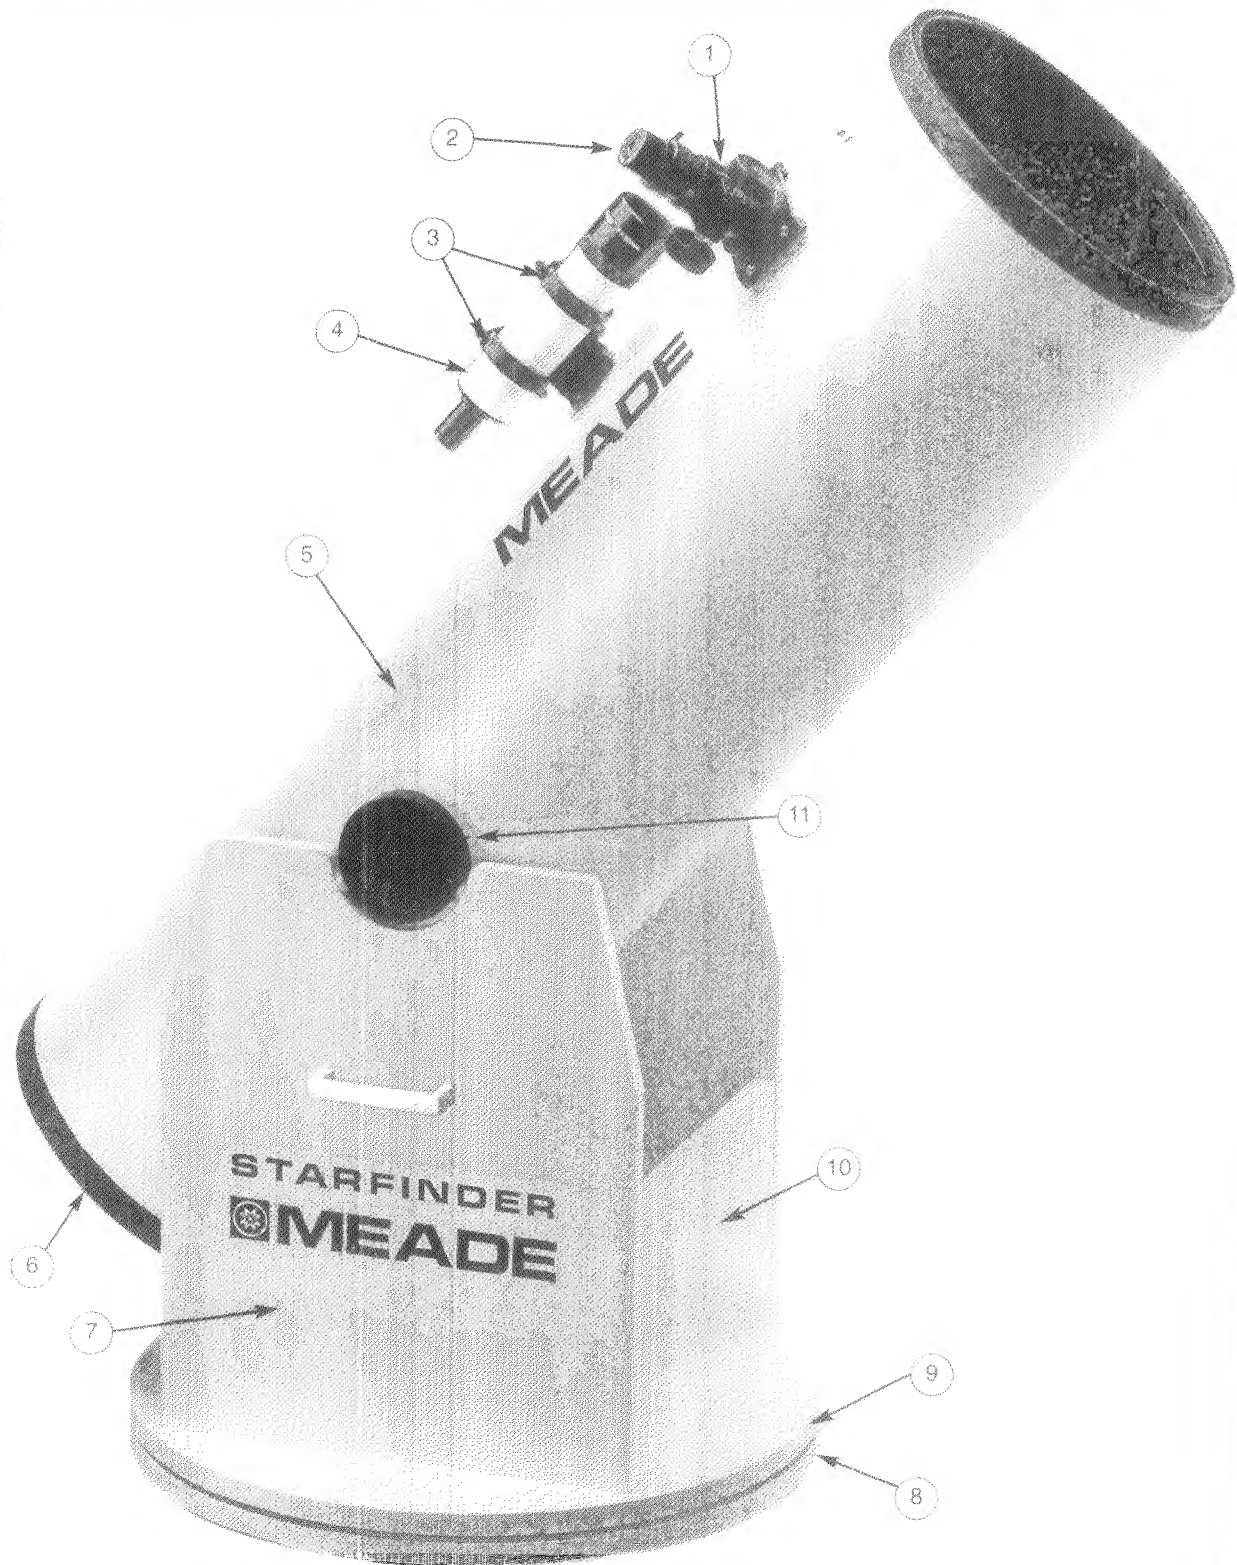

Fig. 1: The Meade Starfinder Dobsonian Telescope.
Captions for Fig. 1
When first opening the packing boxes, note carefully the following parts included with the Starfinder Dobsonian Telescope (use Figure 1 and 2 to aid in the identification process):
1. **Attaching the Focuser:** Lay the tube flat on the floor. Align the holes in the focuser assembly (1, Fig. 1) with the four pre-drilled holes in the optical tube. From the provided hardware, place the four Phillips-head screws through the holes. Then, carefully reach into the optical tube and attach a nut and washer to each screw. Tighten the screws, but do not overtighten; tightening to a firm feel is sufficient.
2. **Attaching the Viewfinder:** With the optical tube lying flat on the floor, align the two holes in the viewfinder bracket (3, Fig.1) with the pre-drilled holes in the optical tube. From the supplied hardware, place a screw through each of the holes. Carefully reach into the optical tube and attach a nut to each screw. As with the focuser, tightening to a firm feel is sufficient. Overtightening may result in damage to the tube's finish. Aligning the viewfinder is discussed later in this manual.
4. Carefully place the assembled optical tube into the previously assembled base as illustrated in Figure 1. Note that the two large bearings on the side of the tube (11, Fig. 1) rest in the cutouts of the mount. Also note the orientation of the tube to the mount; the focuser (1, Fig. 1) should be on the opposite side from the mount's Front Board (10, Fig. 1).